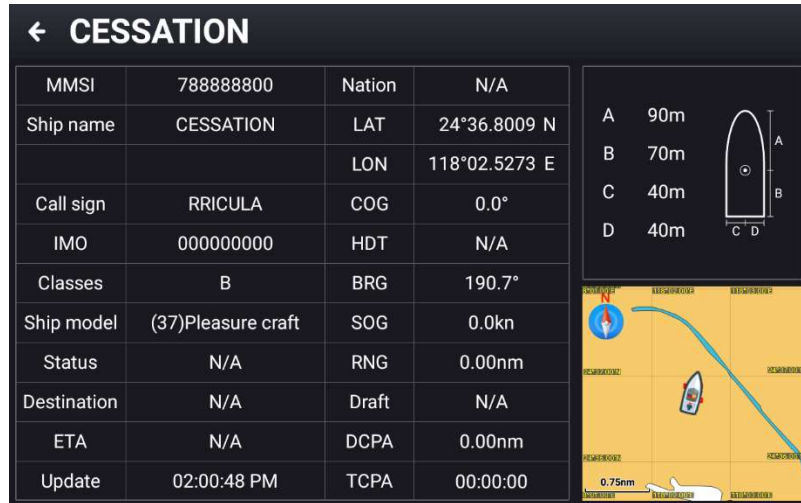

Figure 30 - Detailed Ship information.
8. **Data Information Window:** Click the data information corresponding to any ship to view the detailed information of the ship, as shown in the figure 30.